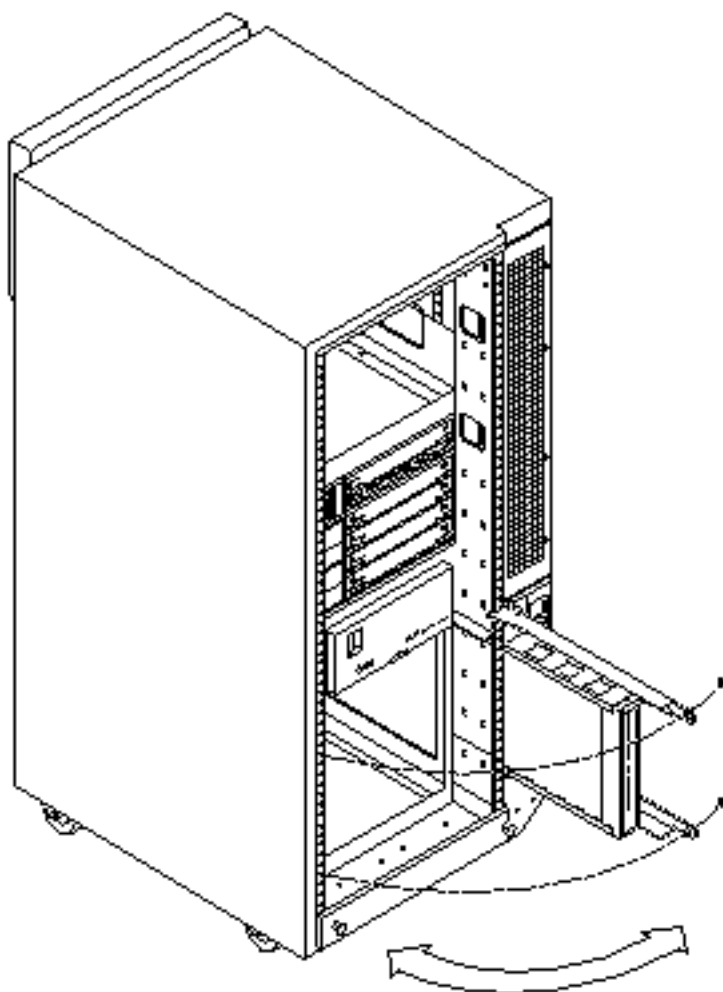

Figure 2-3 Terminal Concentrator Installed on the Hinge
- b. **Align the bracket holes with the boss pins in the hinge assembly, and drop the bracket onto the hinge, as shown in Figure 2-3.**